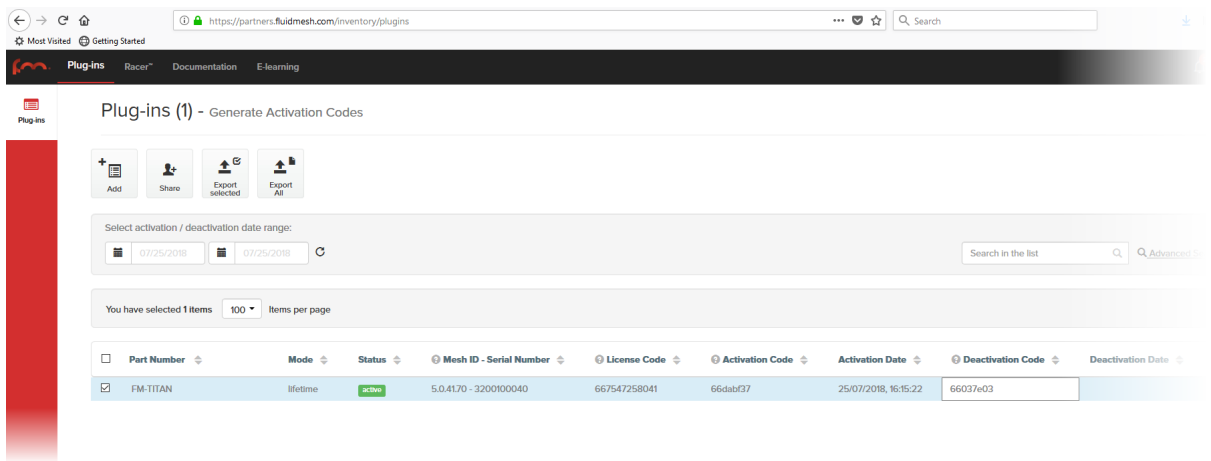

Figure 68. Partner Portal Plug-ins page (deactivation code entry)
8. Enter the Deactivation code for the plug-in in the Deactivation Code field (Figure 68 (page 153)).